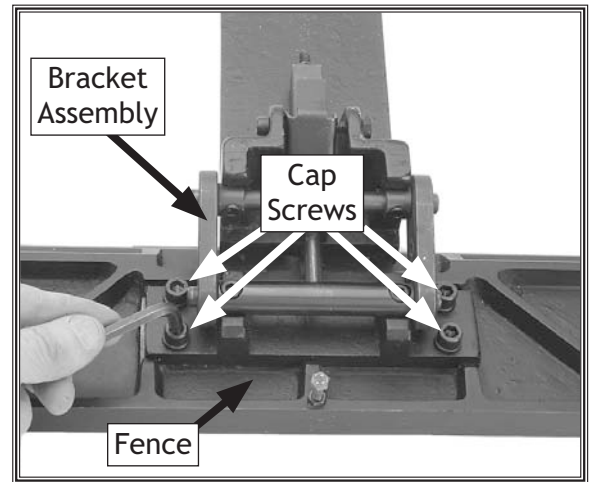

Figure 15. Attaching the fence to the fence bracket assembly.
- Use the remaining four cap screws and washers to attach the fence to the fence bracket assembly, as shown in Figure 15.